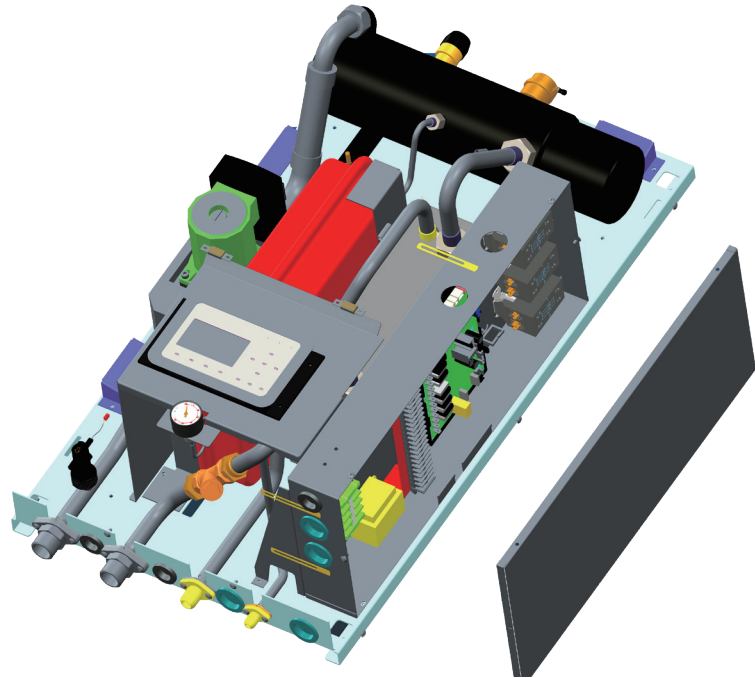

Fig. 3
2) Electric box assy [ Fig. 3]